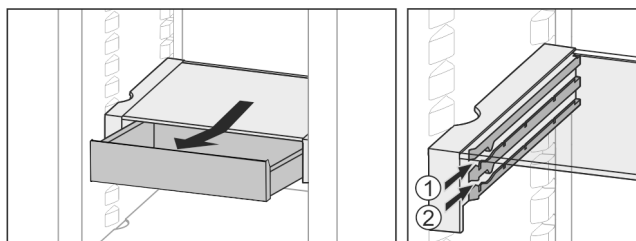

Fig. 26
- Slide back at the height you want Fig. 26 (1) or Fig. 26 (2).